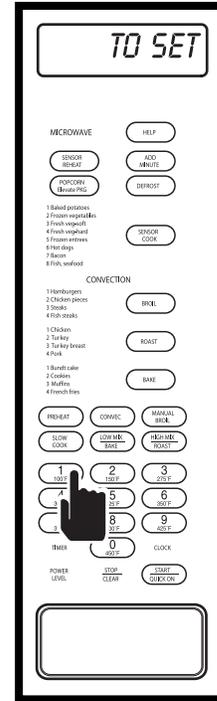

Figure 3-61.
2. Press the number key that correlates with Help feature desired and follow instructions shown on display. For this example, “CHILD LOCK” was chosen by pressing the number 1 key. “TO SET - LOCK - PRESS - START” will flash on display (See Figure 3-61).